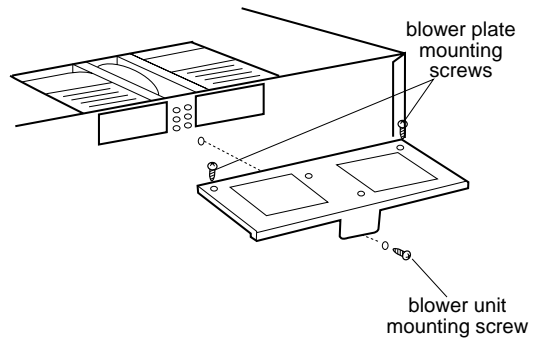

Figure 16
9. Reattach the blower plate to cabinet so the exhaust ports and blower plate opening are aligned. Attach with one blower unit mounting screw and then two blower plate mounting screws. See Figure 16, page 11.